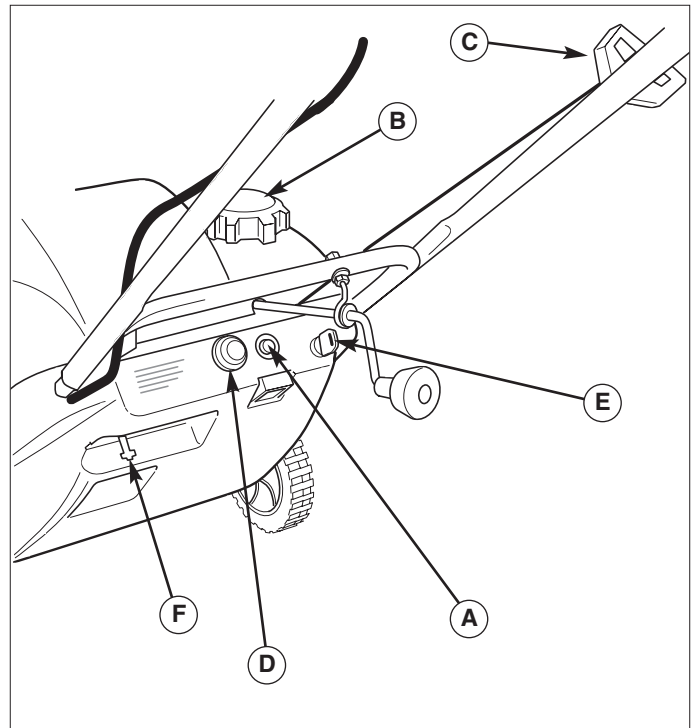

Figure 5. Engine Controls
A. Electric Start Button - The Electric Start Button (A, Figure 5) activates an electric starter mounted to the engine, eliminating the need to pull the starter handle. The Electric Start Button operates on 120 Volts AC, which is provided by connection to the extension cord provided with units equipped with this feature. **Connect this extension cord ONLY to a properly grounded 3 prong electrical outlet.**
- C. Starter Handle** - The starter handle (C, Figure 5) connects to a starter cord to manually start the engine. Pulling starter handle rapidly spins the engine crankshaft, cycles the engine, and generates the spark necessary for starting the engine.
- D. Primer Button** - When pressed, the Primer Button (D, Figure 5) provides initial fuel to help start a cold engine. Normally, pressing the primer button twice will provide enough fuel to start a cold engine.
- F. Choke Control** - The is control (F, Figure 5) adjusts the fuel/air mixture, and is used to help start a cold engine by providing a richer mixture. Once the engine is warm and running smoothly, the Choke Control should be set to the off position to provide a normal air/fuel mix.